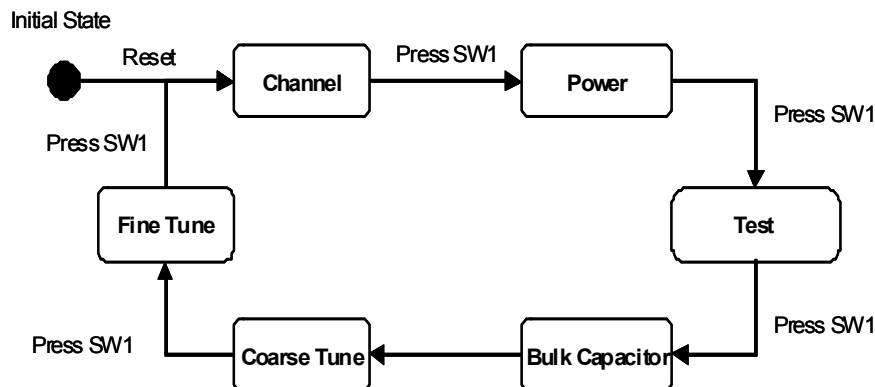

Figure 3-1. Selecting the Application Mode
- SW1: Selects the application mode. (Channel Change, Power Adjust, Test to perform, etc.) see Figure 3-1.
- For TX the possible options are: IDLE (0), PSRB (1), PER (2), Range Test TX (3), Continuous Modulated (4) and Continuous Unmodulated (5).
- For RX mode the possible options are: IDLE (0), Continuous reception (1), PER(2) and Range Test RX (3).